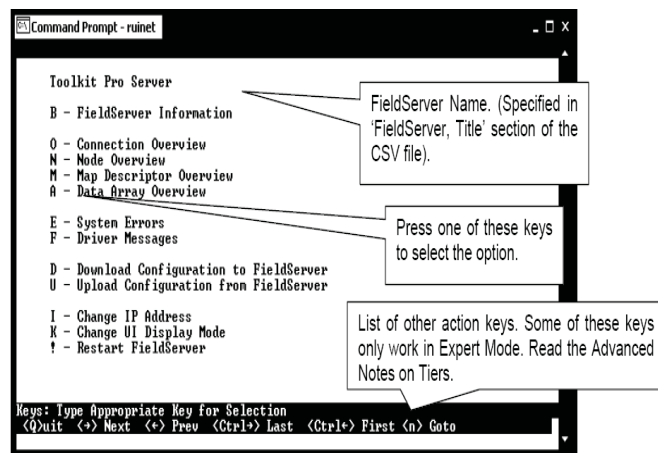

Figure 11: RUINET PT-Link II Main Menu
6.) Once connected, you will see the *RUINET Main Menu* (**Figure 11**). Unless you need to make changes to the config.csv file (see steps 9-13), you are now ready to send and receive files to and from the PT-Link II.